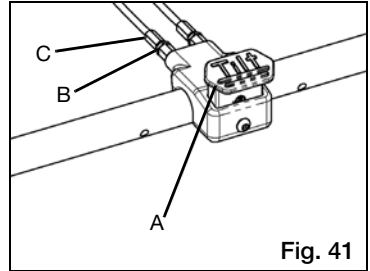

Fig. 41
- Depress foot tilt pedal (Fig. 41:A).
- Using two 10mm wrenches, loosen jam nut (Fig. 41:B) while holding adjuster (Fig. 41:C) in place. Repeat for opposite cable.